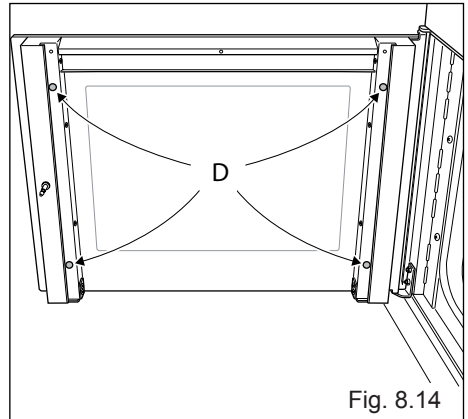

Fig. 8.14
- Check that the four rubber pads are in place (“D” in fig. 8.14).